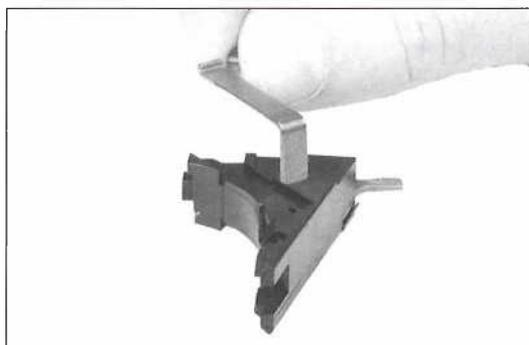
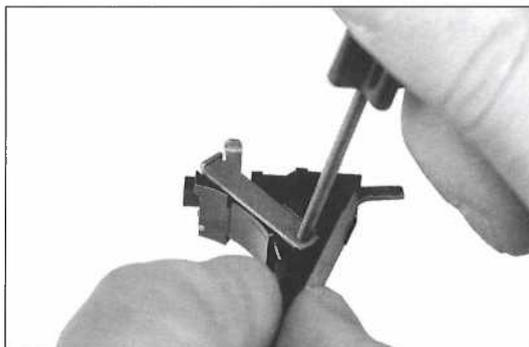

Fig. 97
Fig. 98
- Insert the short leg of the connector into its recess in the trigger mechanism housing (Fig. 97). Press the connector in by using your pin punch (or your screwdriver) as shown (Fig. 98). While doing this operation, be careful to locate your tool as near as possible to where the connector is inserted in the trigger mechanism housing. Otherwise you could damage the connector. This should be a snug fit. Always seat the connector fully and ensure that it's firmly in place.